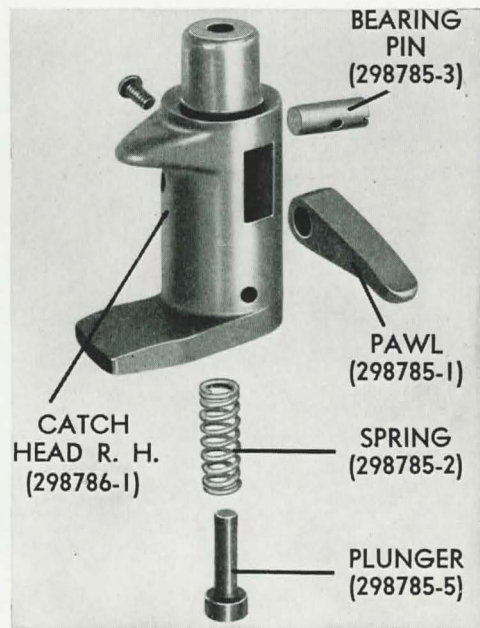

Figure 65
- (3) Remove the catch arm, spring and spindle.
- (4) Disassemble the catch head, **Figure 65**.
- (1) Assemble the catch head, **Figure 65**, page 101.